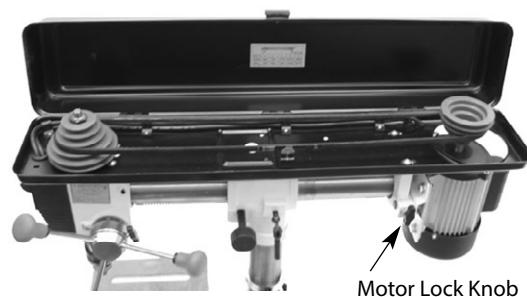

Figure 12 - Adjust V-belt tension.
Refer to Figure 12.
Refer to Figure 12, Figure 17 and Speed Chart.
- To change spindle speed, loosen motor lock knob (see Figure 12, page 6), and push the motor toward front of drill press. This will loosen the belt and permit relocating the belt to the desired pulley groove for the required spindle speed (See Figure 17 and Speed Chart).